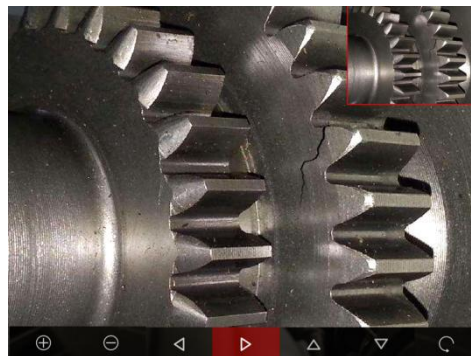

Figure 16
- 1) View the picture in full screen. In this mode, the picture can be zoomed 8 times. When zooming, the picture-in-picture guides the enlarged area (Figure 16). The PIP function can be selected to be on/off within the settings.